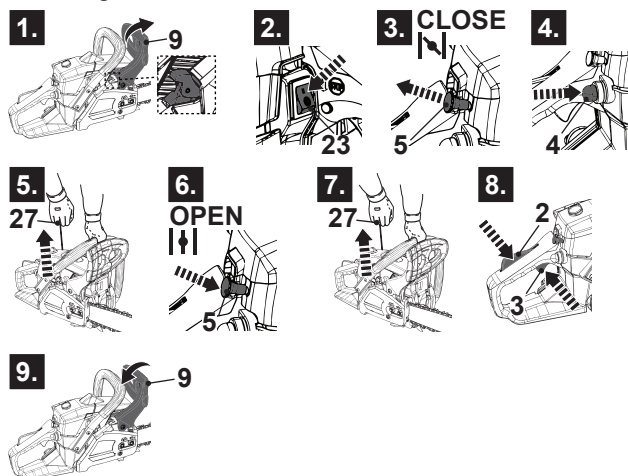

Fig. 25
1. Push front hand guard (9) forward to engage the chain brake (Fig. 25, step 1). The saw chain (10) is now locked.
2. Set the ignition switch (23) to "1" position (On position) (Fig. 25, step 2).
4. Press primer (4) 6 times until the bubble is filled with fuel (Fig. 25, step 4).
5. Hold the product firmly on the ground with left hand on the front handle (8). Your thumb and fingers shall grasp the handle.
7. Pull the recoil starter handle (26) slowly with your right hand until you feel a definite resistance and then give it a brisk, strong pull. Repeat 4 times until you hear a blasting sound (Fig. 25, step 5). At this stage the engine will not start.
8. Push the choke lever (5) fully back in (Fig. 25, step 6). The choke lever is now at OPEN position, and throttle is kept at the fast tickover position.
9. Pull the recoil starter handle (26) again until the engine starts.
10. Press the throttle interlock (2) and the throttle trigger (3) to cancel fast tickover (Fig. 25, step 8). The engine runs at idle speed.
12. Once the engine is running smoothly, carefully pull the front hand guard (9) back toward the front handle (8) to disengage the chain brake (Fig. 25, step 9).
1. Push front hand guard (9) forward to engage the chain brake (Fig. 25, step 1). The saw chain is now locked.
2. Set the ignition switch (23) to "1" position (ON position) (Fig. 25, step 2).
3. Pull out the choke lever (5) fully. The choke lever (5) is now at CLOSE position (Fig. 25, step 3).
4. Push the choke lever (5) fully back in (Fig. 25, step 6). The choke lever is now at OPEN position, and throttle is kept at the fast tickover position.
7. Pull the recoil starter handle (27) lightly until you feel resistance then pull it rapidly (Fig. 25, step 7). Do it again until the engine starts.
8. Press the throttle interlock (2) and the throttle trigger (3) to cancel fast tickover (Fig. 25, step 8). The engine runs at idle speed.
9. Once the engine is running smoothly, carefully pull the front hand guard (9) back toward the front handle (8) to disengage the chain brake (Fig. 25, step 9).
10. Hold the product with the left hand on front handle (8) and the right hand on rear handle (1).
11. Press the throttle interlock (2) and then squeeze throttle trigger (3) to accelerate the engine. The saw chain runs.